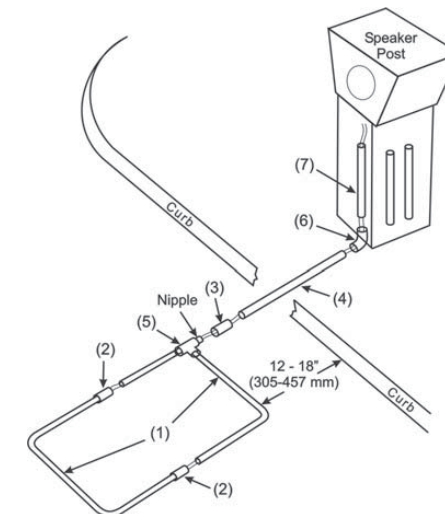
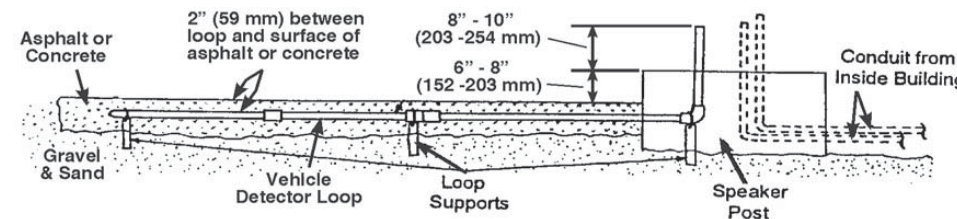

Figure 2. Loop layout and connections
Figure 3. Side view of loop in asphalt or concrete
- Remove the elbow coupling, Figure 2 (6), from the cable. The cable was threaded through the coupling for shipping only.
- Measure the distance from the curb to the outlet of the conduit that comes from the building into the speaker post or menu board to determine if the enclosed 3 foot (.91 meter) PVC loop extension reaches from the loop to the conduit as shown in Figure 2 (4). If it does, proceed to the next paragraph. If not, substitute a longer piece of ½ inch (12.7 mm) PVC pipe (not provided). Measure and cut the pipe to reach from the loop to the point where it must exit the ground into the speaker post.
- Flatten the loop (folded for shipping) as shown in Figure 2 (1). Fit the pipe securely into the couplings (2). Lay the loop flat in the drive-thru lane and position it as shown in Figure 2. Elevate the loop on supports that are anchored to the ground, as shown in Figure 3. Level the loop so it will be 2 inches (51 mm) or less from the paved surface when the concrete is poured. Fasten the loop to the supports with wire, so it will not float when the concrete is poured.
- Pull the loop wires through the sleeve coupling (3) and the PVC loop extension (4). Slide one end of the sleeve coupling (3) over the nipple on the corner fitting of the loop (5), and slide the end of the loop extension (4) into the other end of the sleeve coupling (3).
- Pull the loop wires through the elbow coupling (6) and the remaining 2 foot (.61 meter) piece of PVC (7). Slide the two ends (of 4 & 7) into the coupling (6), positioning the piece of PVC (7) so it points upward, out of the ground. Be certain it is next to and parallel to the outlets of the conduit coming into the speaker post or menu board from the building.